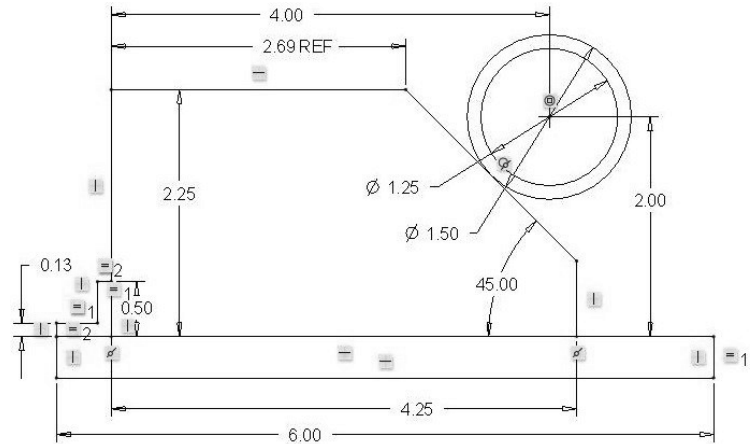

Figure 3-57 Reference Dimension Added
Step 17: The letters REF will appear after the reference dimension. At this point, your sketch should look similar to the one shown in Figure 3-57. The top horizontal line of the jig needs to be 2.69 inches. This will cause the slanted side of the jig to just touch the outside diameter of the pipe.